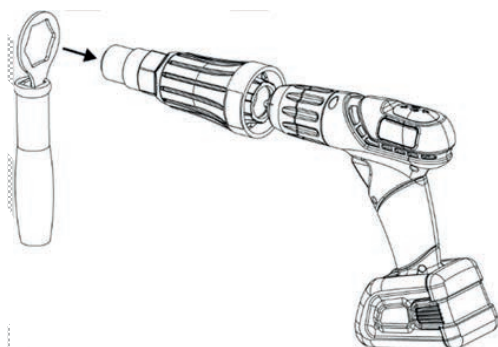

Figure 7
- CAUTION:** If the blind rivet to be used is difficult to fasten, the counter-rotational force will be stronger. It is recommended to install the extension handle (figure 7). And it is highly recommended to start the power drill slowly.
**CAUTION:** If the blind rivet to be used is difficult to fasten, the counter-rotational force will be stronger. It is recommended to install the extension handle (figure 7). And it is highly recommended to start the power drill slowly.